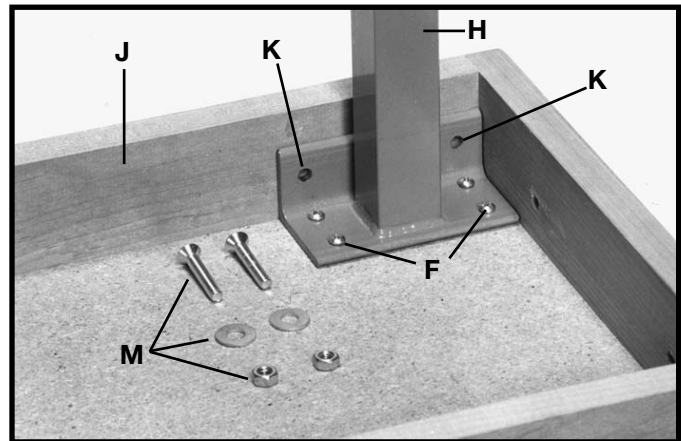
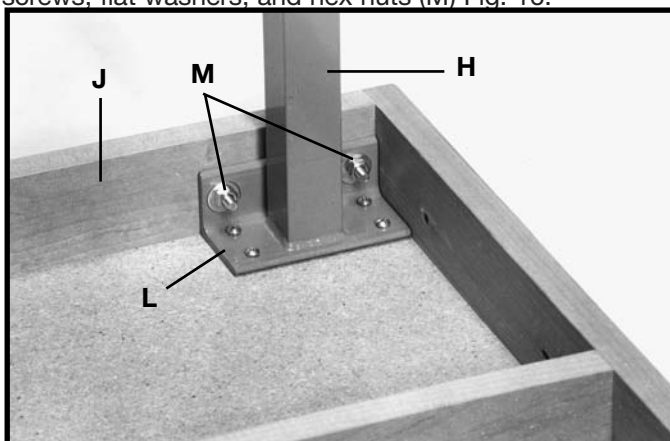

Fig. 16
Fig. 17
2. Figure 16 illustrates one of the legs (H) fastened to the bottom of the extension table with the four wood screws (I). Using a 1/4" drill bit, drill two through holes through the end piece (J) of the table, measuring the holes from the outside frame of the table. The holes are to be drilled 1-3/4" from the top (laminated side), and 1-3/8" and 4-3/8" from the side.
3. Fasten the leg bracket (L) Fig. 17, to the end piece (J) of the table using the two 1-1/2" long flat head Phillips screws, flat washers and hex nuts (M) Figs. 16 and 17. Fasten the remaining leg to the extension table in the same manner.
2. After the holes have been drilled in the edge of the front and rear extension table board, fasten both front and rear rail to table using the 1-1/2" flat head Phillips screws, flat washers, and hex nuts (M) Fig. 16.